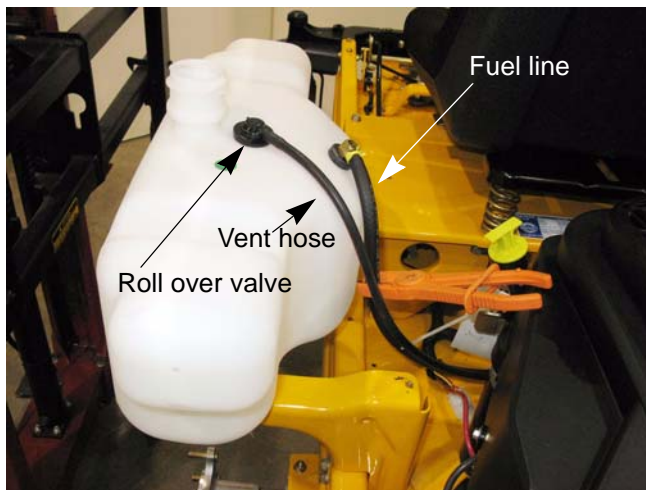

Figure 2.6
2. Clamp off the fuel line between the fuel tank and the fuel filter. See Figure 2.6.